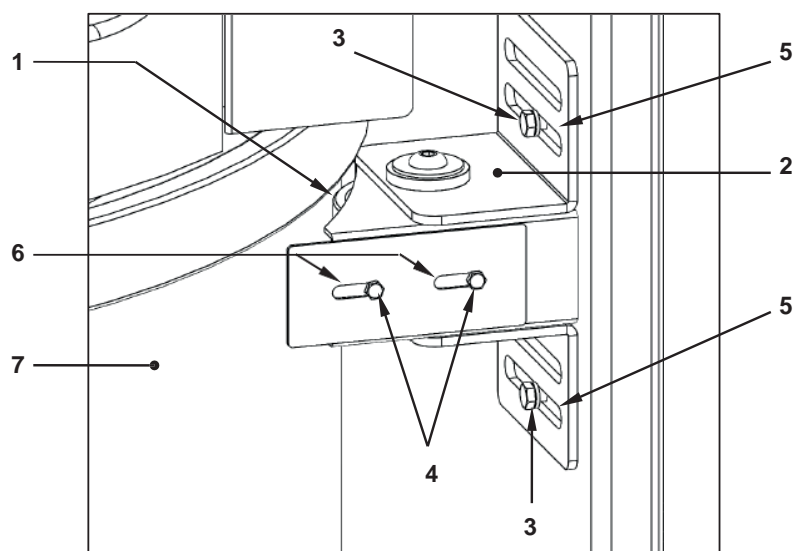

Figure 19 - Bowl pushing castors
Whit reference to Figure 19, each of the two units push the bowl pusher (one per side of the machine). It is essentially composed of an idle roller ref. 1 and a support ref. 2; their function is to counter the force of the spiral arm under whose thrust the bowl ref. 7 would tend to deform. When a roller is excessively worn or damaged, or is finding rotation difficult (or doesn't rotate at all), it must be replaced; AMPTO SNC will provide the unit with the roller + support ready for assembly on the machine. To replace the roller unit + support:
- remove the screws ref. 3 and ref. 4 with the relevant washers (pay attention you don't lose them; put them in a safe place)
- position the new unit in the machine, as displayed in the figure, and screw in, but don't tighten the screws ref. 3 with the relevant washers, in the threaded holes of the column after inserting them in the slots ref. 5 of the support ref. 2; do the same for screws ref. 4, with relevant washers, and the slots ref. 6
- since the bowl ref. 7 is not perfectly cylindrical, the roller ref. 1 must be positioned in such a way it touches the side of the bowl in the point where it is nearest to the roller; to do this, move the unit by taking advantage of the slots ref. 5 and ref. 6;
- once the right position is found, fasten everything by tightening the screws ref. 3 and ref. 4
- check the distance between the support ref. 2 and the bowl and between the disc ref. 8 is not over 4 mm, this is very important to minimise the risk of catching, dragging, crushing between the roller ref. 1 and the side of the bowl ref. 7; if you cannot respect the aforementioned maximum distance, do not use the machine and immediately contact AMPTO SNC.